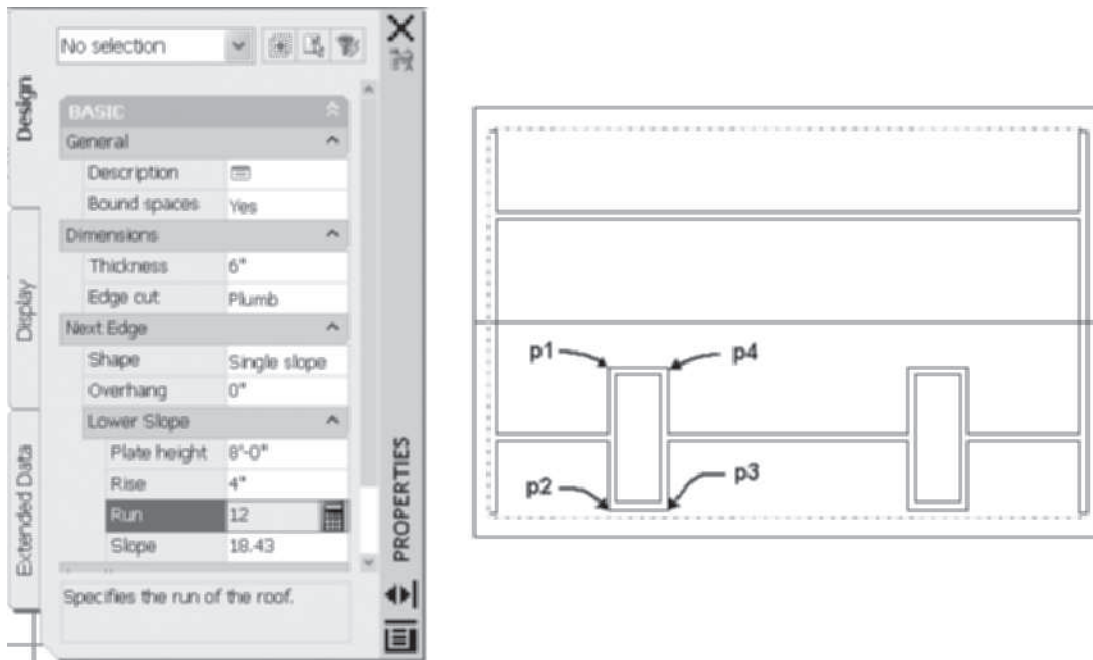

FIGURE 7.60 Vertex locations for dormer roof
6. Add the dormer roofs by selecting the **Roof** command from the Design palette. Edit the Properties palette as follows: Basic—Dimensions: Thickness = **6 [150]**, Edge cut = **Plumb**, Next Edge: Shape = **Single slope**, Overhang = **0**, Lower Slope-Plate Height = **8' [2400]**, Rise = **4 [33]**. Respond to the following command line prompts by selecting roof points as specified in Figure 7.60.
Roof point or: (Select the wall using the intersection of the outer lines of the corner at **p1** as shown in Figure 7.60.)
Roof point or: (Select the wall using the intersection of the outer lines of the corner at **p2** as shown in Figure 7.60.)
Roof point or: (Select the wall using the intersection of the outer lines of the corner at **p3** as shown in Figure 7.60.)